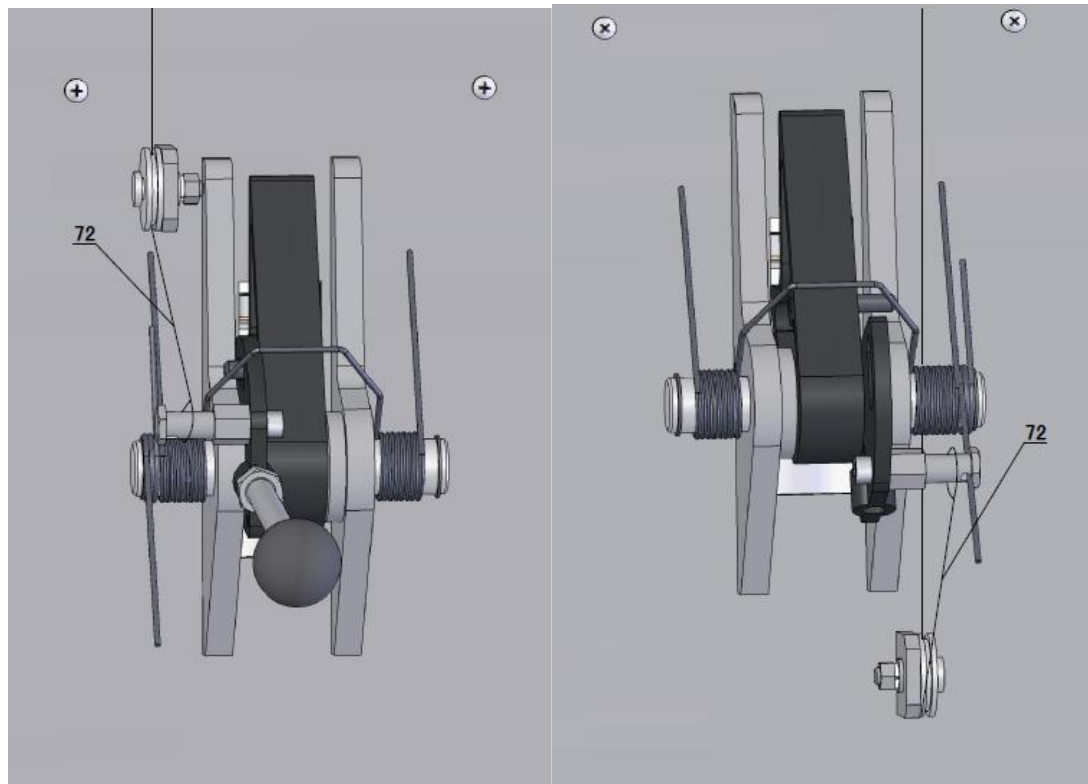

Fig 5 Power Column Lock
24. Attach Mechanical Lock Release Cable Assembly to two Column Lock Pawl (Fig 5).